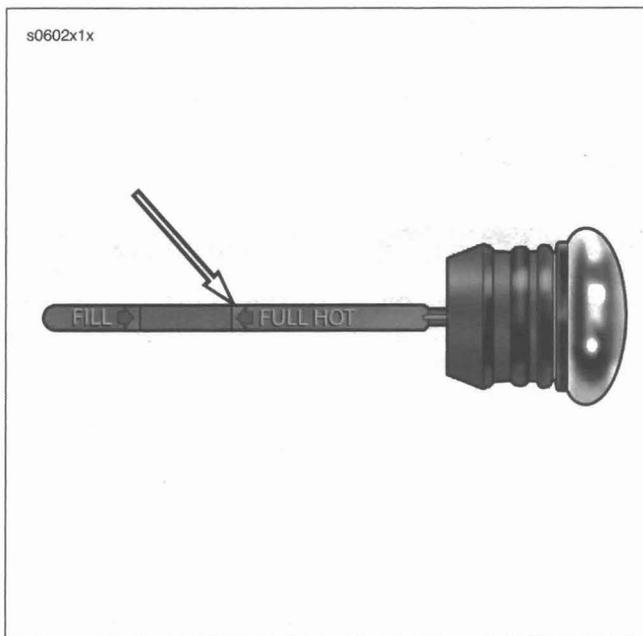

Figure 1-2. Oil Tank Dipstick Upper Groove
3. See Figure 1-2. Check oil level on dipstick. If necessary, add oil until oil registers at upper groove on dipstick. Do not overfill oil tank.